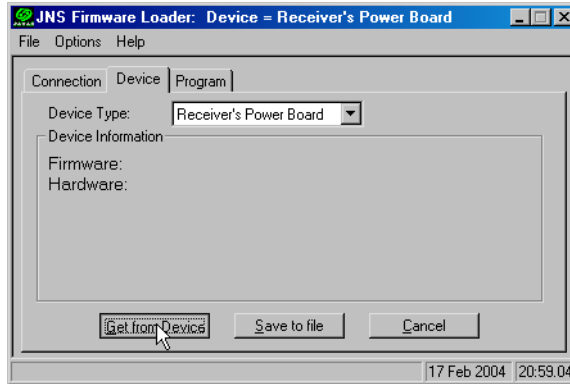

Figure 4-17. Set Device Type
6. Select the **Device** tab and set the Device Type as Receiver's Power Board (Figure 4-17).
7. Click **Get from Device** for device information (Figure 4-17).